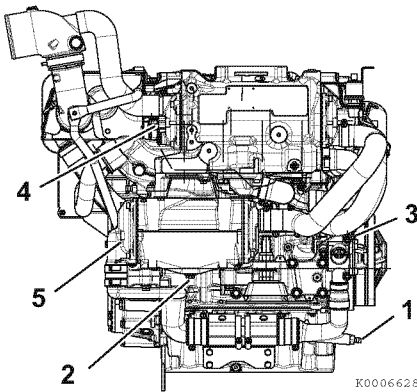

Figure 7-4
1. Open the lower seawater drain cock (1, **Figure 7-4**) located in the piping between the seawater pump and hydraulic oil cooler. Allow to drain.
2. Open the drain cock (2, **Figure 7-4**) on the bottom of the charge air cooler.
3. Loosen the seawater pump cover (3, **Figure 7-4**) to allow water to drain. See *Seawater Pump* on page 7-17.
5. Remove anodes from the engine heat exchanger (4, **Figure 7-4**) and charge air cooler (5, **Figure 7-4**) and allow water to drain from housings.